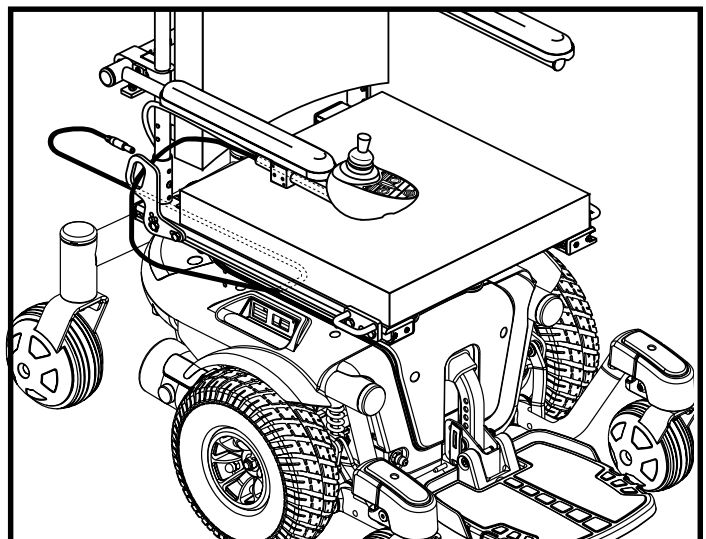

Figure 12. Remote Plus Controller Routed on a Synergy Seat
4. Install the controller and route the cable to the back of the power base. See figure 12.